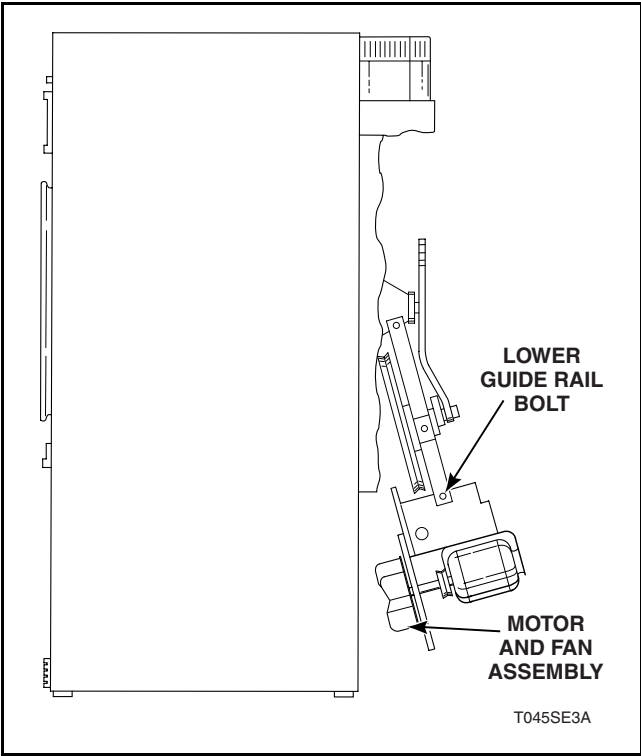

Figure 46
NOTE: After removing belt, replace the lower guide rail bolt. Refer to *Figure 46*.
- j. Using the guide rails as supports, swing motor and fan assembly out and away from rear of tumbler. Refer to *Figure 46*.